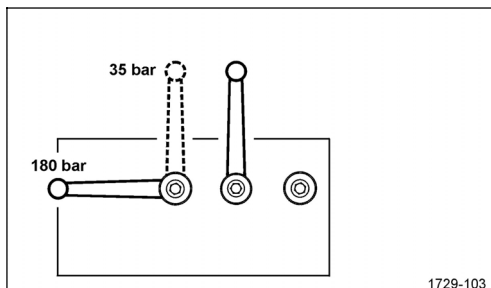

Figure 62
- ☐ Left machine side: set left ball valve of the hydraulic block according to Figure 62: 180 bar. set right ball valve of the hydraulic block according to Figure 62: this releases the knives.
- ☐ Set left ball valve (Figure 62) back to 35 bar.